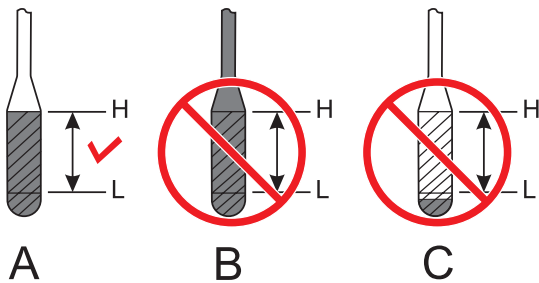

Figure 16. Engine Oil Dipstick
3. Reinsert the dipstick, then remove the dipstick from its holder. Check the oil level shown on the dipstick (Figure 16).